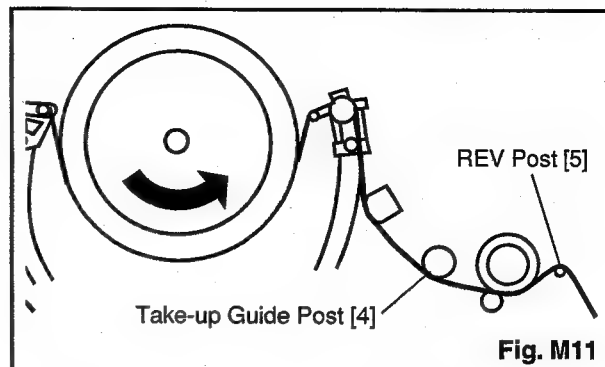

Fig. M11
1. Insert a black cassette tape into the tray and set the unit to REV. Then confirm if the tape has been curled up or bent at the Take-up Guide Post[4] or REV Post[5]. (Refer to Fig. M11 and M12.)
2. When the tape has been curled up or bent, turn the alignment screw to adjust the height of REV Post. (Refer to Fig. M11 and M13.)